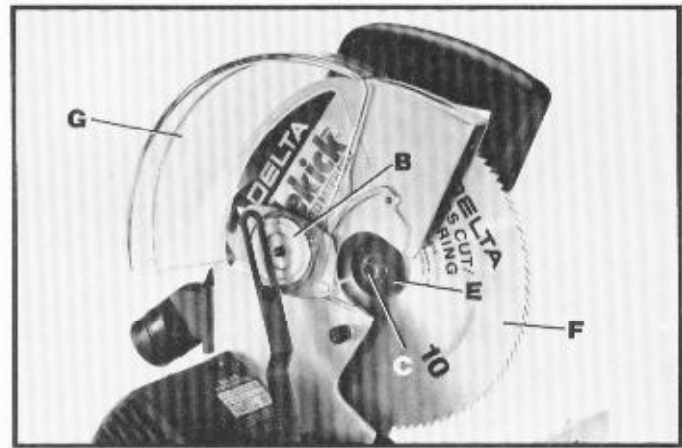
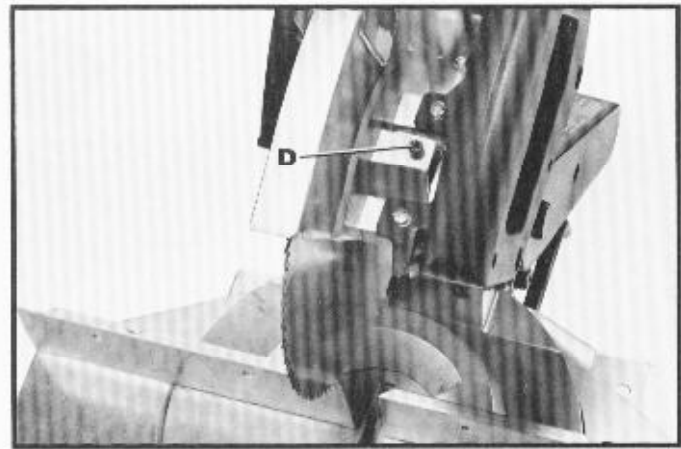

Fig. 59
Fig. 60
3. Rotate arbor cover (B) Fig. 59, and lower guard (G) to the rear, exposing arbor screw (C), as shown.
4. Remove arbor screw (C) Fig. 59, by turning screw clockwise with wrench supplied while at the same time pressing in on arbor lock (D) Fig. 60, to keep the arbor from turning. Remove outside blade flange (E) Fig. 59, and saw blade (F). **DO NOT REMOVE INSIDE BLADE FLANGE.**
5. Assemble new saw blade **MAKING CERTAIN TEETH OF SAW BLADE ARE POINTING DOWN AT THE FRONT, AS SHOWN** and assemble outside blade flange (E) Fig. 59, making sure flats on outside blade flange are engaged with flats on arbor shaft.
6. Thread arbor screw (C) Fig. 59, into saw arbor by turning screw (C) counterclockwise as far as possible by hand. Then tighten arbor screw (C) with wrench supplied while at the same time pressing in on arbor lock (D) Fig. 60, to keep arbor from turning.
7. Rotate arbor cover (B) Fig. 59, and lower guard (G) to the front and replace screw (A) Fig. 58.